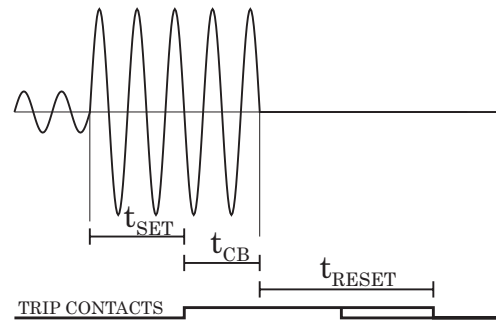

Figure 5.2: Reset time is the time it takes the trip or start relay contacts to open after the fault has been cleared.
Figure 5.2 shows an example of reset time i.e. release delay, when the relay is clearing an overcurrent fault. When the relay's trip contacts are closed the circuit breaker (CB) starts to open. After the CB contacts are open the fault current will still flow through an arc between the opened contacts. The current is finally cut off when the